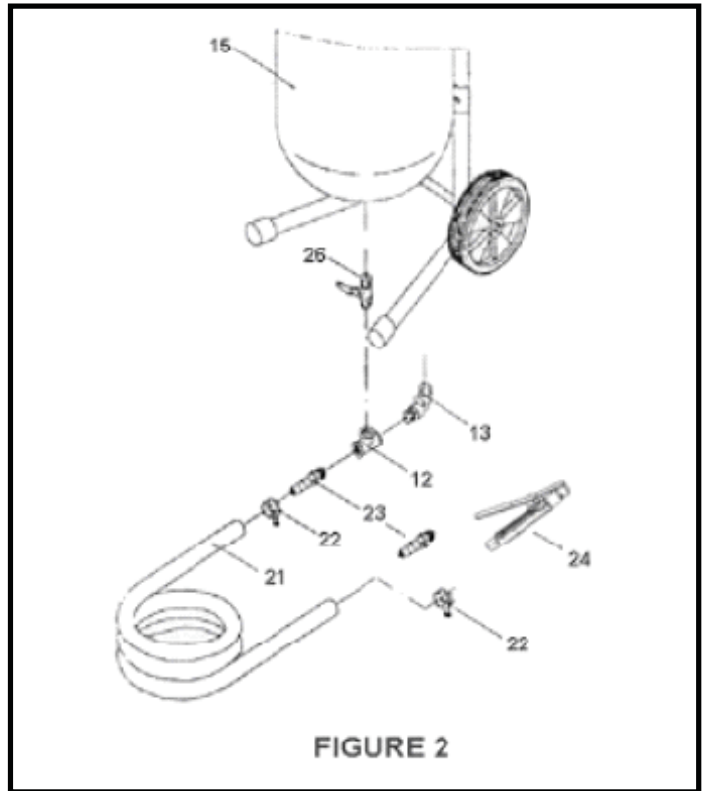

FIGURE 2
Abrasive Metering Valve and Abrasive Gun Assembly (Refer to Fig 2)
5. Attach the elbow connector (#13) to the remaining side port of the intake manifold (#12). Make sure the other end of the elbow connector points to the other elbow connector in the bottom assembly (#13 from figure 2).